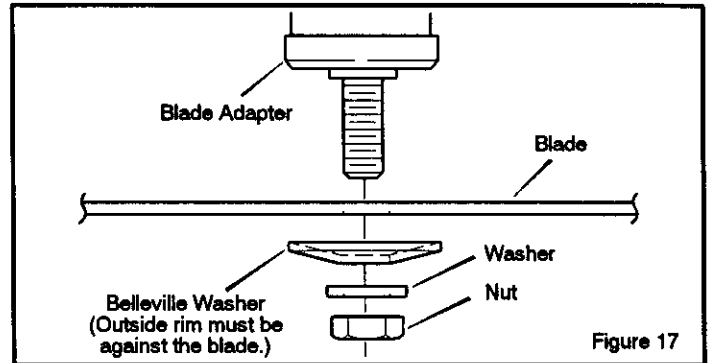

Figure 17
8. Fasten the blade with the original washers and nut. Make sure the outside rim of the Belleville washer is against the blade (Figure 17).